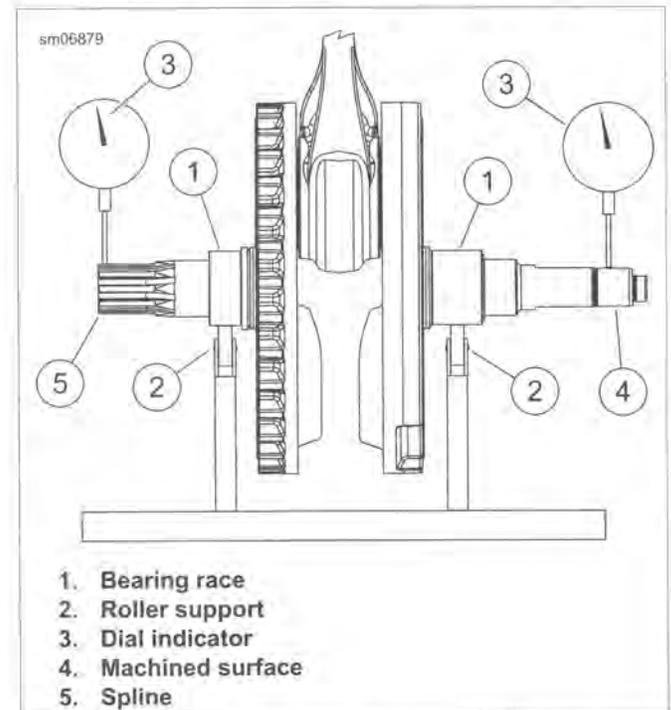

Figure 3-136. Checking Crankshaft Runout
1. See Figure 3-136. Mount crankshaft in truing stand so it is supported on the bearing races (1) by the roller supports (2).